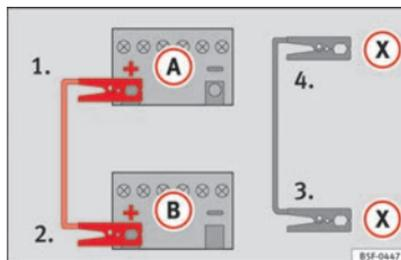

Fig. 209 Diagram of connections for vehicles with Start-Stop system.
- **For vehicles with Start-Stop system:** connect one end of the *black* jump lead  to a suitable ground terminal, a solid piece of metal in the engine block, or to the engine block ⇒ Fig. 209.